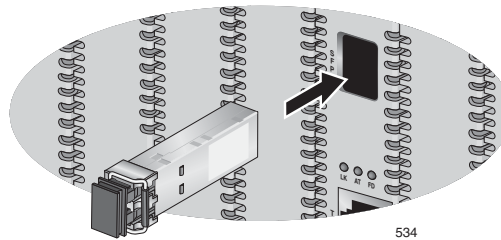

Figure 32. Inserting an SFP Transceiver into the SFP Slot
1. Insert the SFP transceiver into the SFP slot on the line card, as shown in Figure 32.